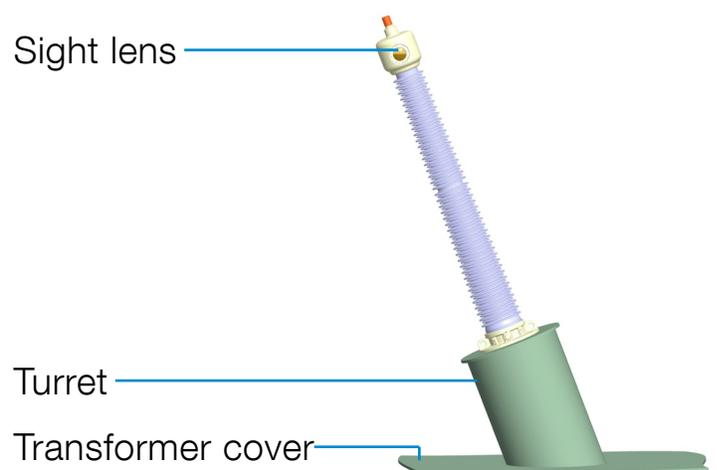

Figure 5 - Angular mounting
- For proper oil level indication on bushings provided with a prismatic sight lens, the indicator should be oriented so that the sight lens faces sideways when the bushing is mounted at an angle (Figure 5).